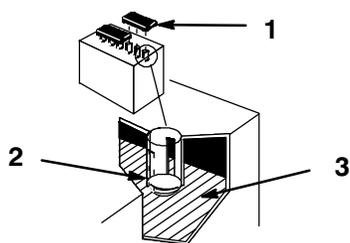

Figure 15
2. Open covers to see into the cells. The electrolyte must be up to the lower part of the tube (Fig. 15). Do not allow the electrolyte to get below the plates. (Fig. 15).
2. Lift off the filler caps (Fig. 15).
3. Slowly pour distilled water into each battery cell until the level is up to the lower part of the tube (Fig. 15).